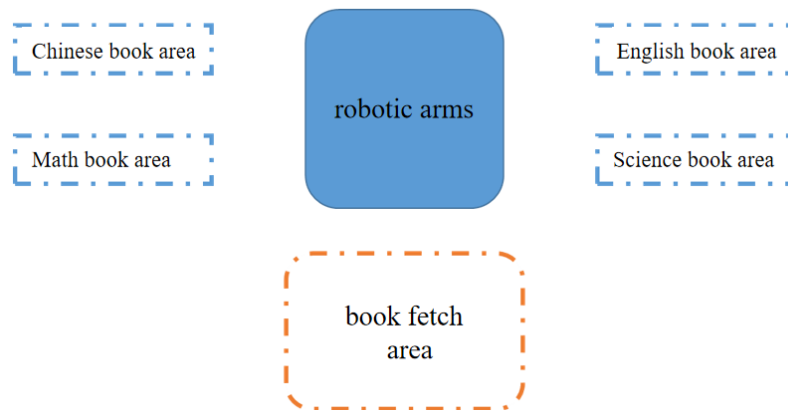

Figure 5.9 Map of the smart library
(1) Prepare Hardware
Step 1: Design the experiment map and place the equipment. The reference of this experimental map is shown in Figure 5.9.